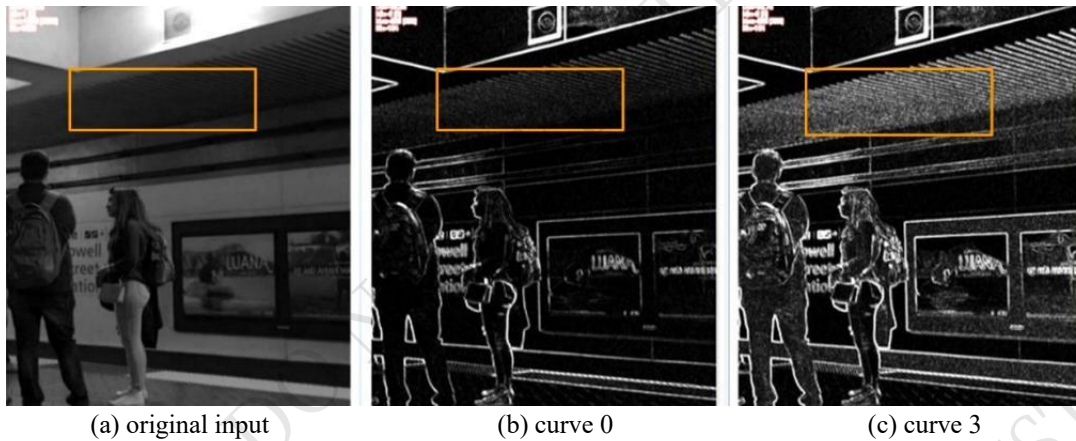

Fig 6.84 Difference map results with different parameters (Luminance Gain).
- If Filter Mode $\neq$ 0, we will merge two difference map information as our final difference map. As shown in the Fig 6.83. Besides, we **only** show this UI when Filter Mode $\neq$ 0, as shown in the Fig 6.84 (a).
- We show the two related pieces of information about Difference Map I & II. As shown in the Fig 6.84 (b).